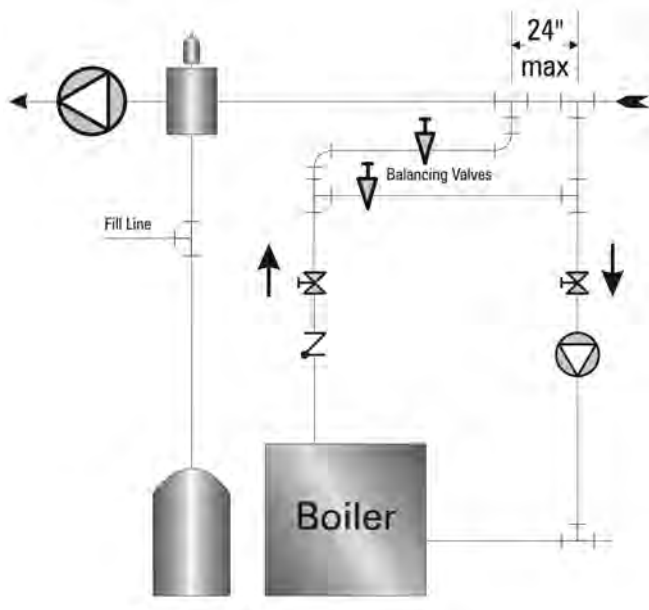
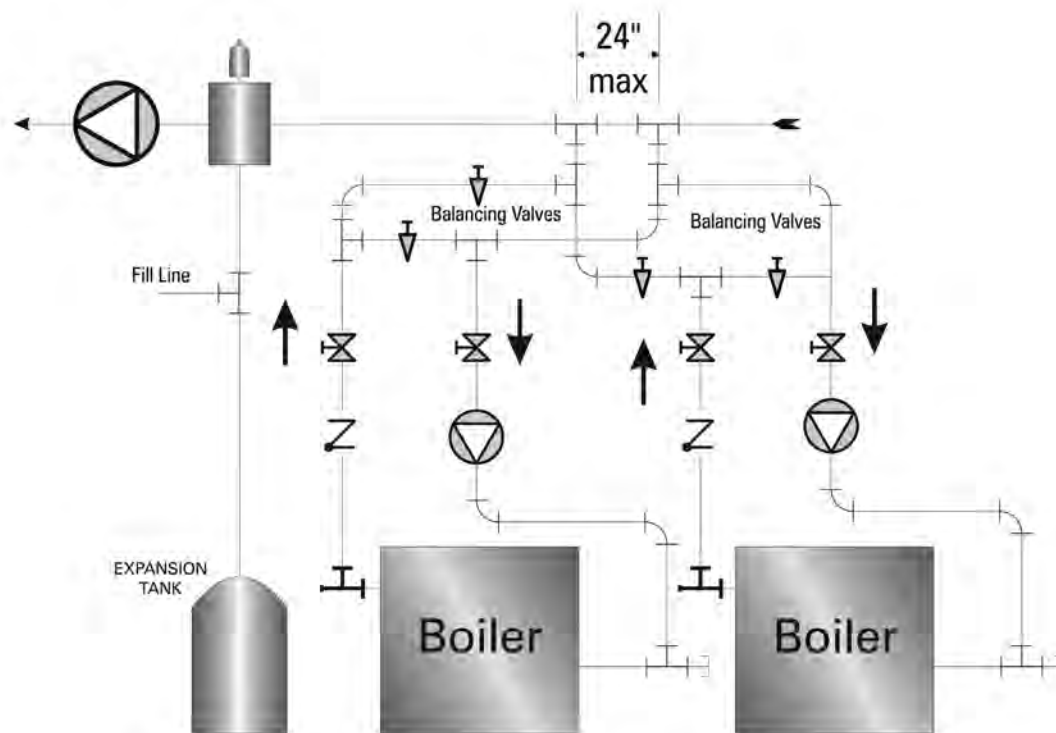

Figure 4.13: Fixed By-Pass Piping, Single Boiler
Figure 4.14: Fixed By-Pass Piping, Multiple Boilers
- a. For systems with a relatively constant low operating temperature (such as heat pump systems), you can pipe a fixed flow by-pass arrangement as shown in Figure 4.13. This piping will not work for variable low temperature systems such as outdoor reset systems or primary/secondary systems with a large circuit temperature drop, see Figure 4.14 for multiple boilers.